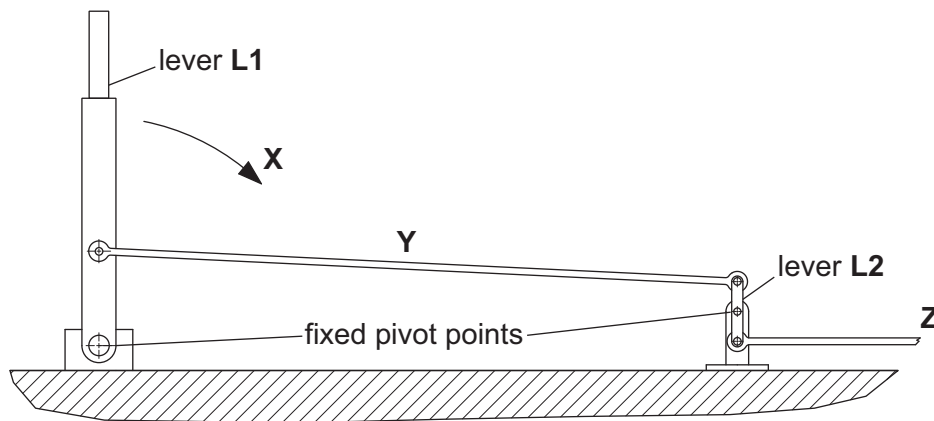

Fig. 3.1
- 3 Fig. 3.1 shows a lever being used to move a link rod that is attached to a second lever.
- (b) Add arrows to Fig. 3.1 to show how link rods **Y** and **Z** will move when lever **L1** rotates in direction **X**. [2]